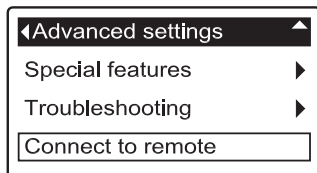
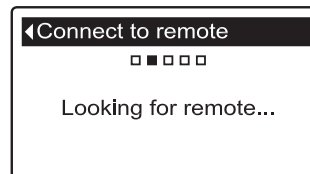
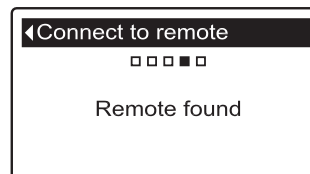

FIG. 18
FIG. 19
FIG. 20
4. Press the conditioner/refiner's SELECT (O) button to display the Advanced settings menu (See Figure 18).
9. Make sure the conditioner/refiner's display still shows the screen in Figure 18. Press the conditioner/refiner's SELECT (O) button to display the "Looking for remote" screen (See Figure 19).
10. Within a few seconds the screen should change to show "Remote found" (See Figure 20). If, after about one minute, the conditioner/refiner's screen instead reads "New remote not found," press the conditioner/refiner's SELECT (O) button to return to the screen in Figure 18 and press the remote's LEFT (◀) button to return to the screen in Figure 96. Then repeat this procedure from Step 8. If the remote is not found after several tries, contact your dealer for service. Take note of the message on the remote's screen after an unsuccessful attempt, as it indicates the nature of the problem.
11. Press the conditioner/refiner's SELECT (O) button. The display will go back to the Advanced settings menu (Figure 18).